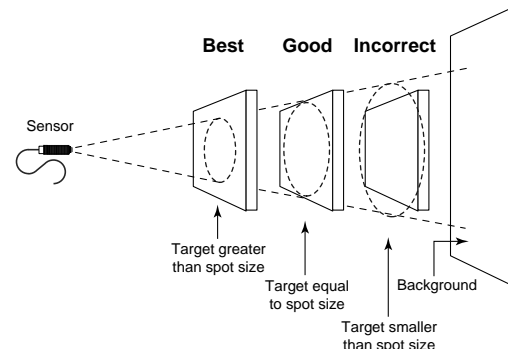

Figure 4: Proper Sensor Placement
**Distance and Spot Size**—The size of the area (spot size) you wish to measure determines the distance between the sensor and the target (see Figure 3 for distances and spot sizes). The spot size must not be larger than the target. Mount the sensor so the measured spot is the same or smaller than the target. Figure 4 is an overview of proper sensor placement.